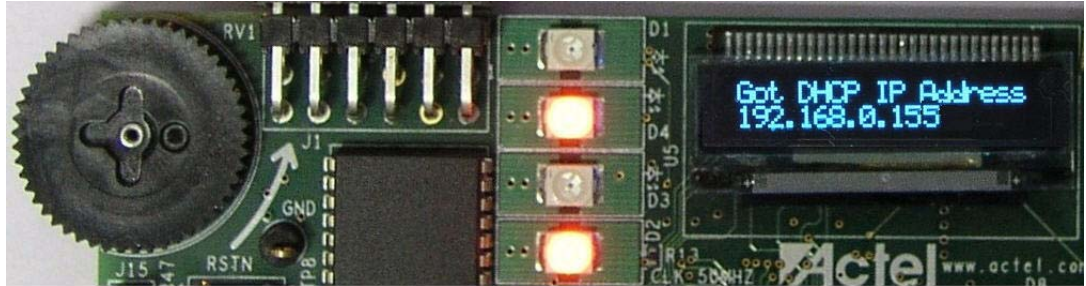

Figure 5-1 • IP Address Example
Press SW3 to enter Webserver mode. The OLED displays a static internet protocol (IP) address for the board. The value will vary, but one example is shown in Figure 5-1.
This will open a web page and you can then step through various features (Figure 5-1):